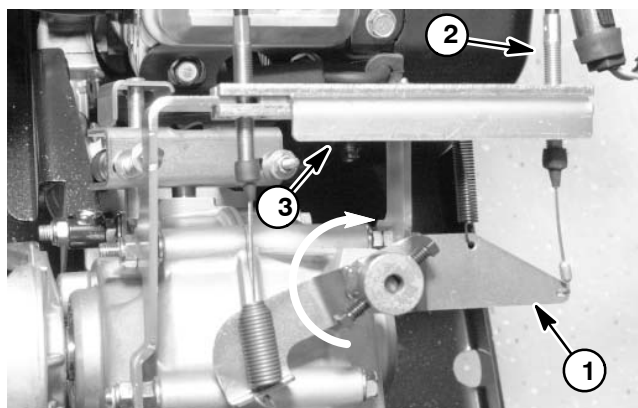

Figure 5
3. Rotate governor arm on transaxle fully clockwise (Fig. 5).
- B. Adjust throttle cable at the cable bracket as necessary, so there is no compression of the throttle cable (Fig. 5). This will allow the throttle control lever to fully close when the accelerator pedal is released.